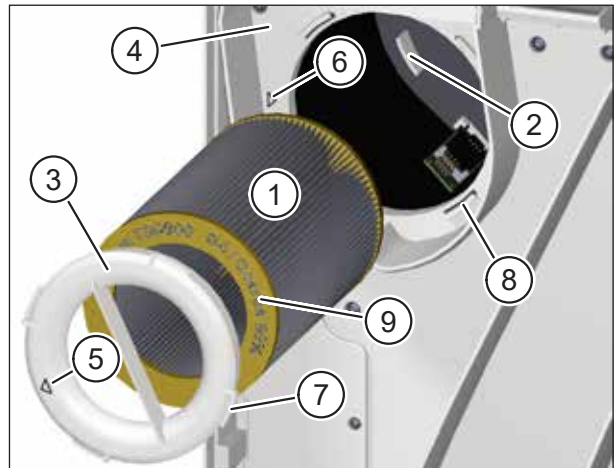

Fig. 22: Inserting the new extract air filter
- ▶ Carefully guide the new extract air filter (item 1 in Fig. 22) into the ventilation unit.
- ▶ Make sure that the air filter slides into the 3 retaining tabs (item 2 in Fig. 22) on the back wall of the ventilation unit.
- ▶ Place the filter ring (item 3 in Fig. 22) on the extract air filter. Make sure that the filter ring lies flat on the intermediate plate (item 4 in Fig. 22).
- ▶ Turn the filter ring clockwise until the arrow on the filter ring (item 5 in Fig. 22) lines up with the arrow for the locking position (item 6 in Fig. 22). Make sure that the 4 tabs (item 7 in Fig. 22) on the filter ring engage in the retainers (item 8 in Fig. 22) on the intermediate plate.
- Only M-WRG-II FS, part no. 750000, may be used as the extract air filter. The part no. and air filter class are imprinted on the yellow end plate of the air filter (item 9 in Fig. 22).